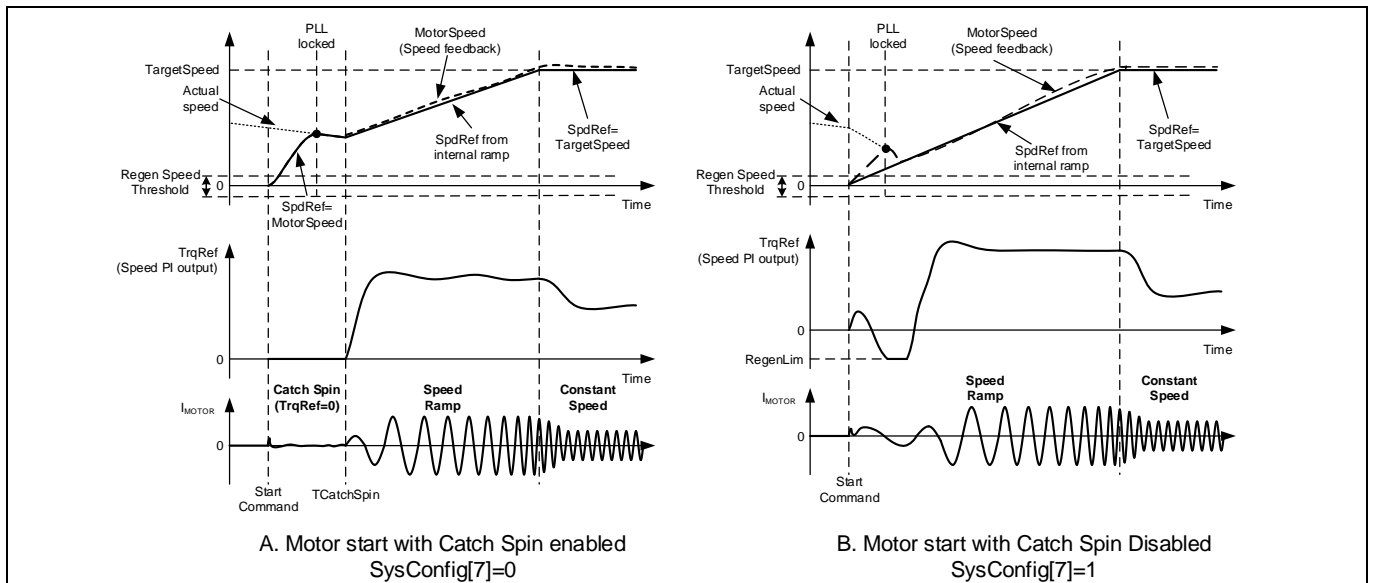

Figure 18 Forward Catch Spin - Motor start with/without catch spin
If the motor is spinning in the same direction as desired, then the catch spin sequence is termed as ‘Forward Catch Spin’. Figure 18 (A) shows an example for ‘Forward Catch Spin’. In this example, at the start command the motor is already spinning (in the desired direction). During the catch spin sequence, no motoring current is injected. After the catch spin time has elapsed, assuming the flux PLL locks to the actual motor speed, the motor speed at that instance becomes initial speed reference and starting point for speed ramp reference. The motor continues to accelerate or decelerate, following the speed ramp reference to reach the set target speed.
If catch spin is disabled, normal speed control starts immediately after the start command, without waiting for PLL to be locked. Usually the control would still be able to start a spinning motor, but motor speed may not increase/decrease seamlessly. As shown in Figure 18 (B), after the start command, the actual motor speed is higher than speed reference (SpdRef). Hence, the motor is decelerated (using regenerative braking) to force the motor to follow the speed reference (SpdRef). As the speed of the motor is higher than Regen Speed Threshold (RegSpdThr), the negative torque injected in the motor to achieve deceleration is limited by the value in RegenLim parameter. Once the motor speed matches the speed reference, the motor starts accelerating, following the speed ramp reference to reach the set target speed.